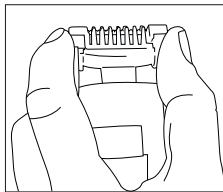

Fig. 1
1. To detach the length guide, gently hold the trimmer in one hand and with your thumb and index finger push up on each side of the comb guide (Fig. 1).